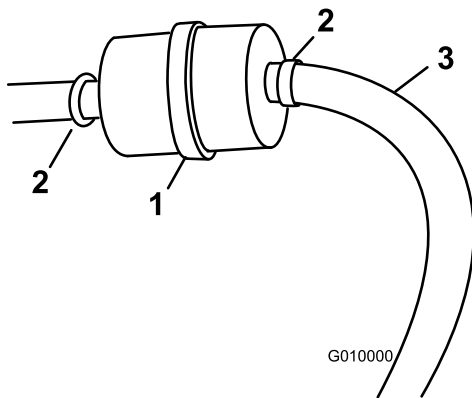

Figure 52
3. Loosen the hose clamps and slide them away from the filter (Figure 52).
3. Loosen the hose clamp at the fuel filter and slide it up the fuel line away from the fuel filter (Figure 52).
4. Disconnect the fuel line from the fuel filter (Figure 52).
Note: Allow gasoline to drain into a fuel container can or drain pan (Figure 52).
5. Install the fuel line onto the fuel filter. Slide the hose clamp close to the fuel filter to secure the fuel line (Figure 52).
5. Install a new filter to the hoses and secure the hose clamps (Figure 52).